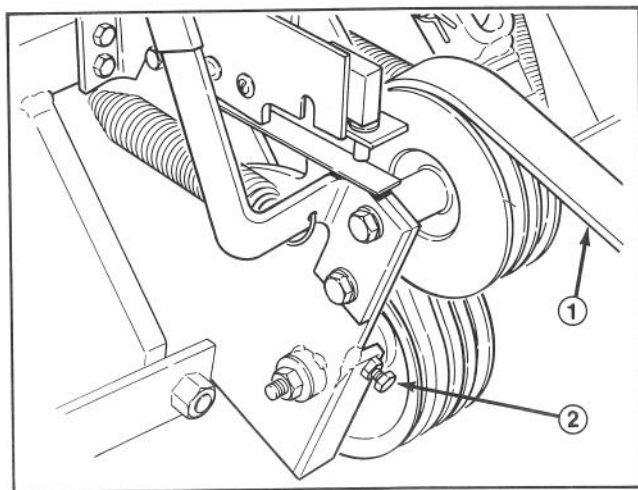

Figure 41
3. If coring head drive belt (Fig. 41) does not properly engage or disengage when entering or exiting the ground, check belt adjustment. Coring head mechanism should begin rotating 1" before tines contact turf.
- B. Loosen adjusting screw jam nut on top of idler pulley bracket (Fig. 41).